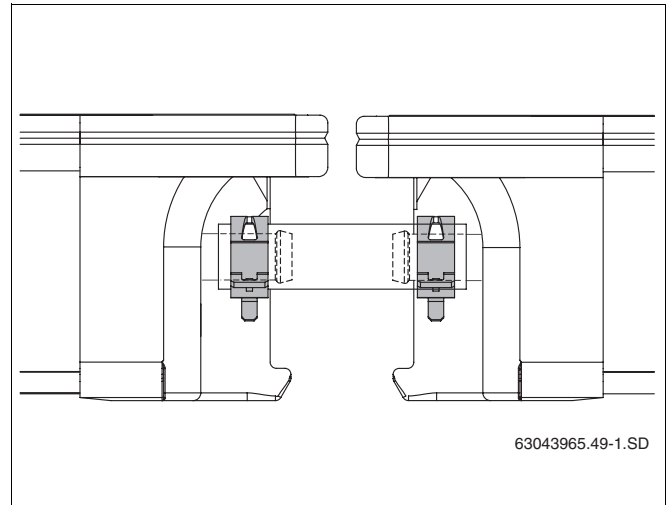

Fig. 47 Solar hose with hose jubilee clips
- Secure every solar hose to the collector connection using a hose clip (Fig. 47).